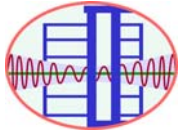

Figure 11. External wall bracing.
- 4.8.2 If on the vertical cross-section, some material inside the building is too close to the external wall, it is considered to be bracing for that wall (refer to Figure 11). This is decided based on the distance from the end of the bracing member to the outer boundary of the slab. If this distance is less than 2.5 cm, the member is treated as bracing for that wall.